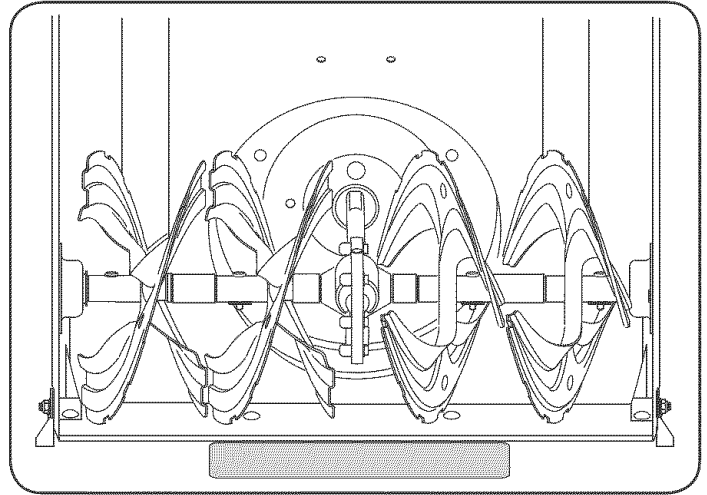

Figure 11
1. Place a block of wood (2 x 4) beneath the shave plate to temporarily raise the snow thrower's auger housing off the ground. See Figure 11.